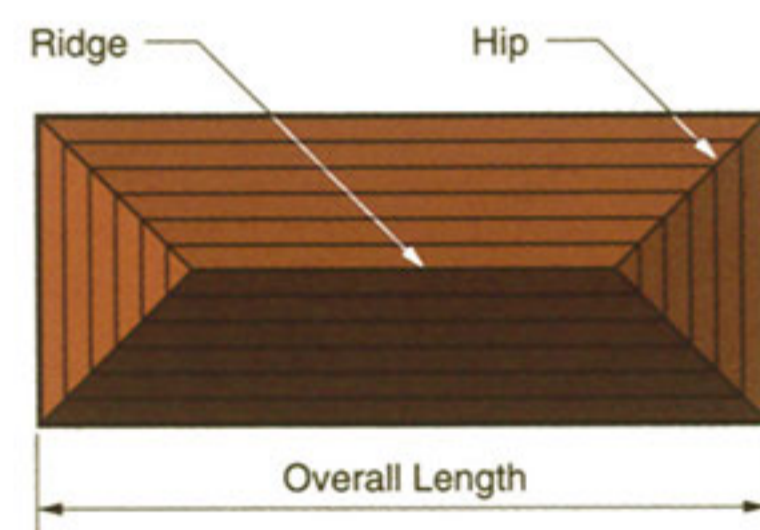

Fig 5.2.1
- HIP ROOFS:** Treat the roof initially as a straight gable. Find the overall length (Fig 5.2.1) and refer to Table 5.1 to calculate the number of tiles required for the coverage. Multiply the result by the number of courses of tiles needed to cover the rafter length. Multiply again by two when calculating both sides of the roof. Find the total hip length and using the formula shown in (iii), calculate the tiles required for the hips. Add this to the tiles required for the body of the roof.